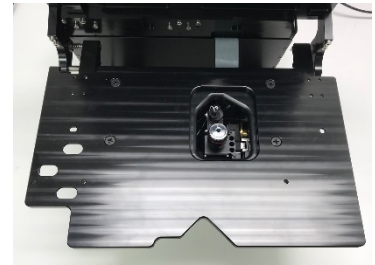

Fig 5. LS720 subdeck Version 1
3. There are 2 versions of the LS720 deck/subdeck. Version 1 has a subdeck with a square shape (Fig 5). Version 2 has a subdeck with a triangular shape (Fig 6) and there are 2 vertical alignment marks on